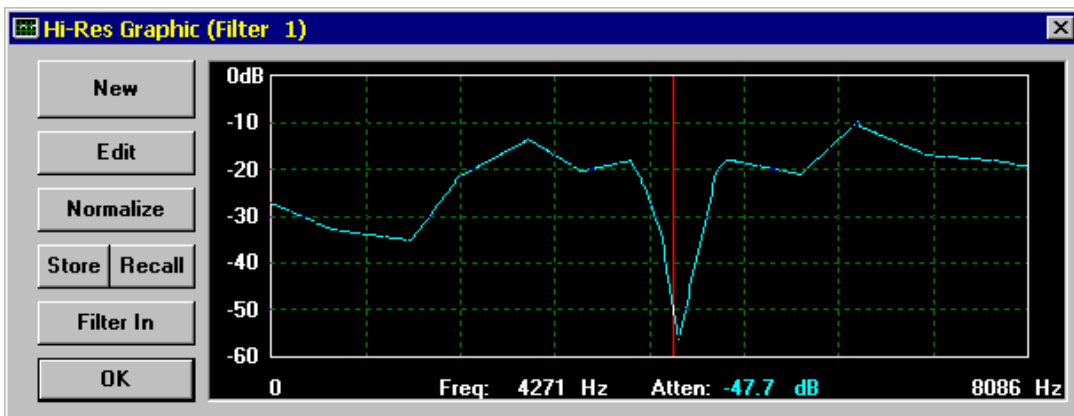

Figure 4-53 Completed Hi-Res Graphic Edit
9. Complete drawing the new portion of the filter curve as shown below (Figure 4-53) by drawing points all the way to the right edge of the edit region: